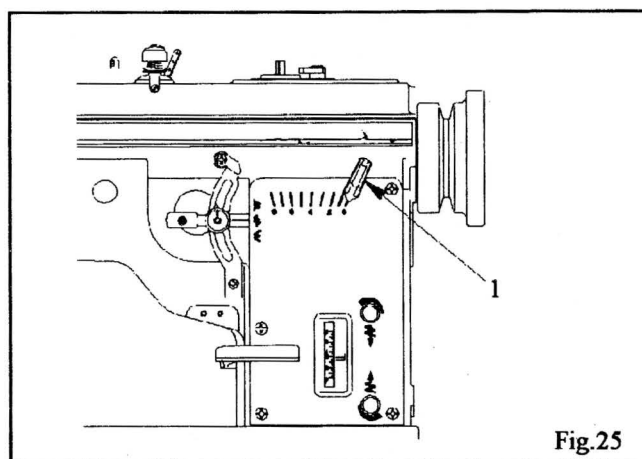

Fig.25
The width of zigzag stitch is regulated with lever (1), Fig. 25.